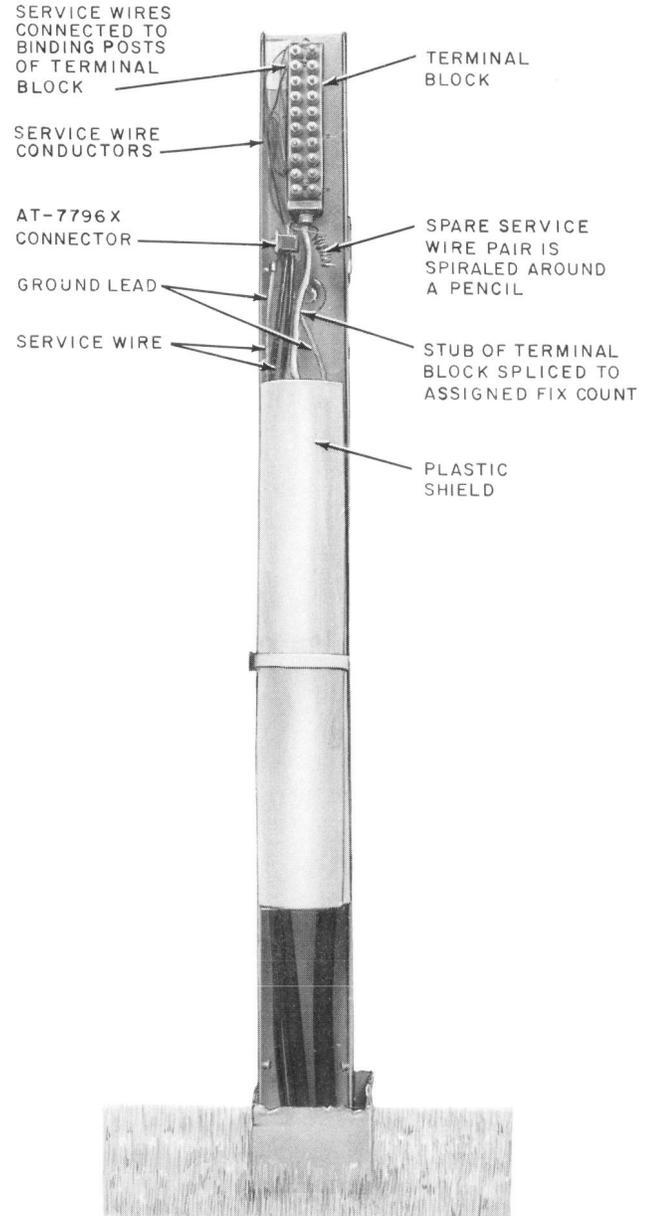

Fig. 15—Service Wires Terminated in RC4/72 Cable Closure
6.02 Where *fixed count* or *preferred count* termination is desired, run the service wire up to the assigned binding post of the terminal block as shown in Fig. 15.